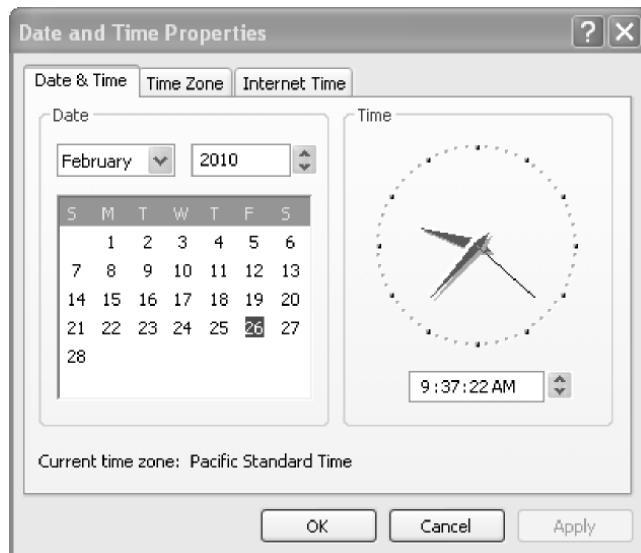

Figure 2-9. Date and Time Properties dialog box
2. Double-click Date and Time icon. The Date and Time Properties dialog box appears (Figure 2-9).